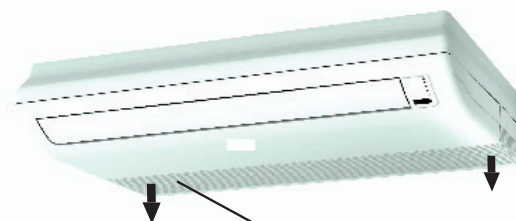

Fig.1 Filter
- 1** Push the notches at the grille's sides and lift the grille for opening it (Fig. 1).